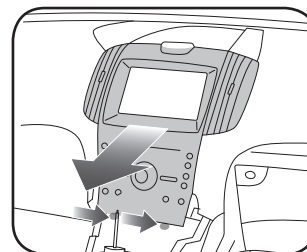

Fig. 1.7
7. Remove the two 7mm screws at the base of the radio bezel. Using a panel tool, gently pry outward on the radio bezel to release the clips securing it. Disconnect the wire harnesses from the back. (Fig. 1.7)